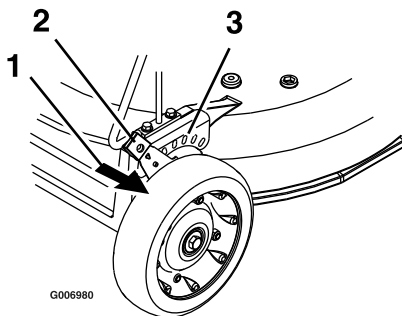

Figure 13
3. Set all four wheels in to the 2 1/2 inches (6.4 cm) cutting height (see Figure 13).
1. Pull the wheel height adjustment lever toward the wheel (Figure 13) and move it to the desired setting.